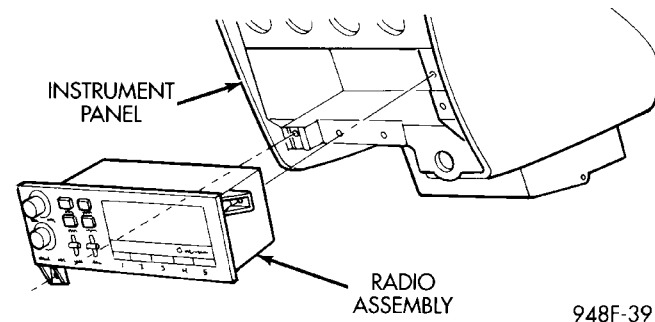

Fig. 7 Radio Assembly
- (2) Remove two mounting screws on the radio and pull out of instrument panel (Fig. 7).
- (3) Disconnect wiring and antenna cable and remove ground wire from radio.